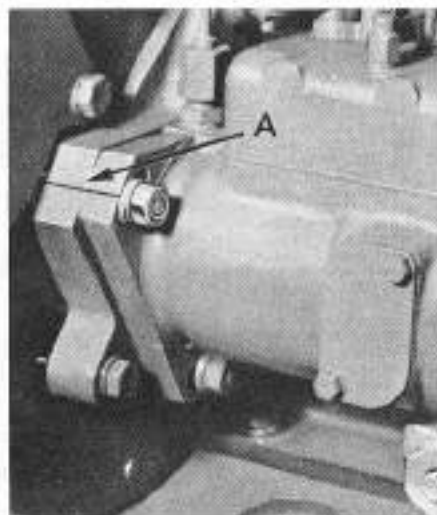

Fig. 59—View showing C.A.V. fuel injection pump timing marks. Model 990 with 4/47 engine is shown; timing marks for other engines are similar.
88. Providing that the injection pump drive gear to camshaft timing (see paragraph 90) has not been disturbed, the C.A.V. fuel injection pump is properly timed when timing mark on pump housing is aligned with timing mark on drive housing flange as shown in Fig. 59. If the pump drive gear has been removed, refer to paragraph 90.
To reinstall pump, first install the thrust spring (late models only) in bore in top end of oil pump shaft, then insert splined (quill) shaft in drive gear with chamfered end up. Install the pump using a new gasket, align the timing marks as shown in Fig. 59, then tighten pump retaining nuts. Reconnect the fuel lines leaving injector line connections loose at the injectors. Install throttle and stop controls and bleed the fuel system as outlined in paragraph 81.
91. **PUMP TIMING.** Providing that pump drive gear or idler gear have not been disturbed, pump is timed when timing mark on pump housing is aligned with mark on drive housing as shown in Fig. 59. If pump drive gear, idler gear or crankshaft gear have been removed, refer to paragraph 46.
To reinstall pump, first install the splined (quill) shaft with chamfered end out. Reinstall pump using a new gasket and with timing marks aligned as shown in Fig. 59. Reconnect controls and lines, leaving fuel injector lines loose at injectors. Bleed the fuel injection pump as outlined in paragraph 82, then tighten the connections.